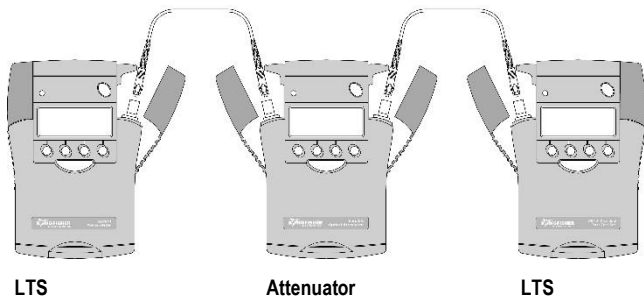

Figure 11. Test set up for One Way Range and Linearity Test
1. Connect the equipment as shown in Figure 11. A single LTS can also be used, with connections to both ports.